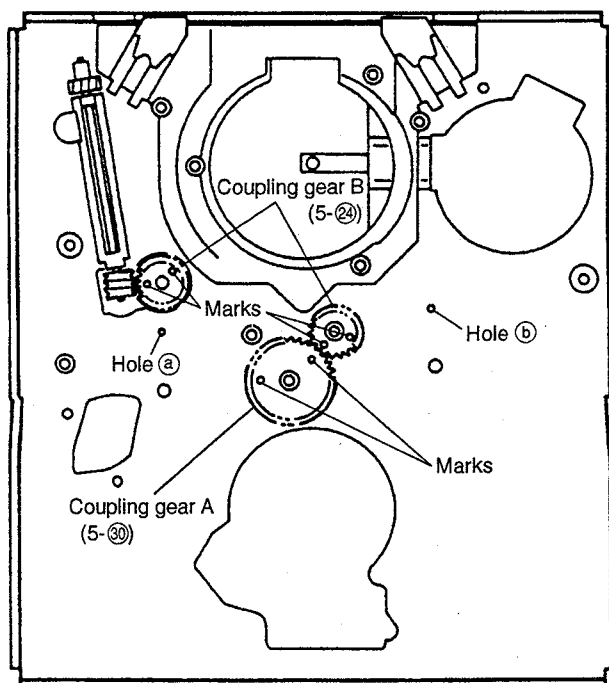
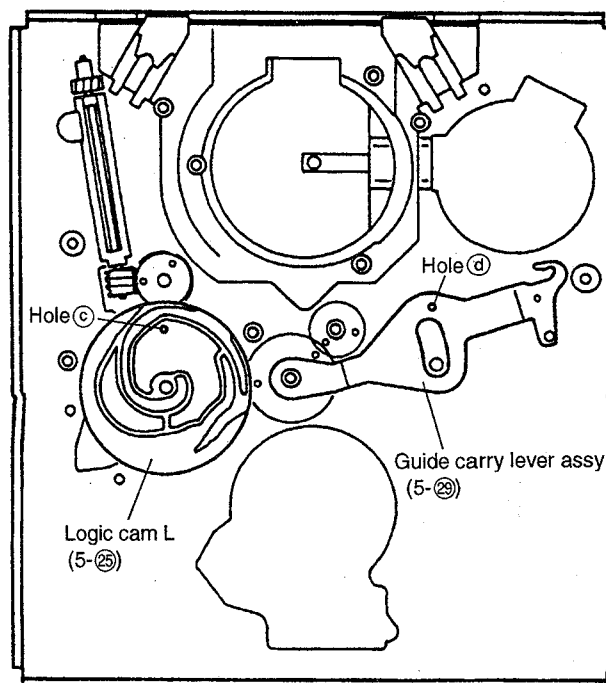

Fig. 2
Fig. 3
As shown in Fig. 2, install Coupling gear B (5-24) and Coupling gear A (5-30) so that the two marks are visible.
- 1) Install Logic cam L (5-25), so that hole ③ in Logic cam L (5-25) in Fig. 3 is aligned with hole ① (Fig. 2) in the mechanism chassis. (Using a 1 mm dia. rod, pass it through the both holes to see if they are aligned with each other. Whenever checking holes for alignment after this, use this method.)
- 2) Similarly, install Guide carry lever assy (5-29) so that hole ④ in Guide carry lever assy (5-29) in Fig. 3 is aligned with hole ② (Fig. 2) in the mechanism chassis.